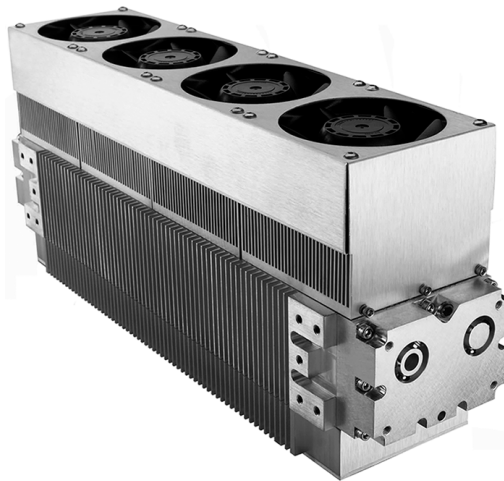
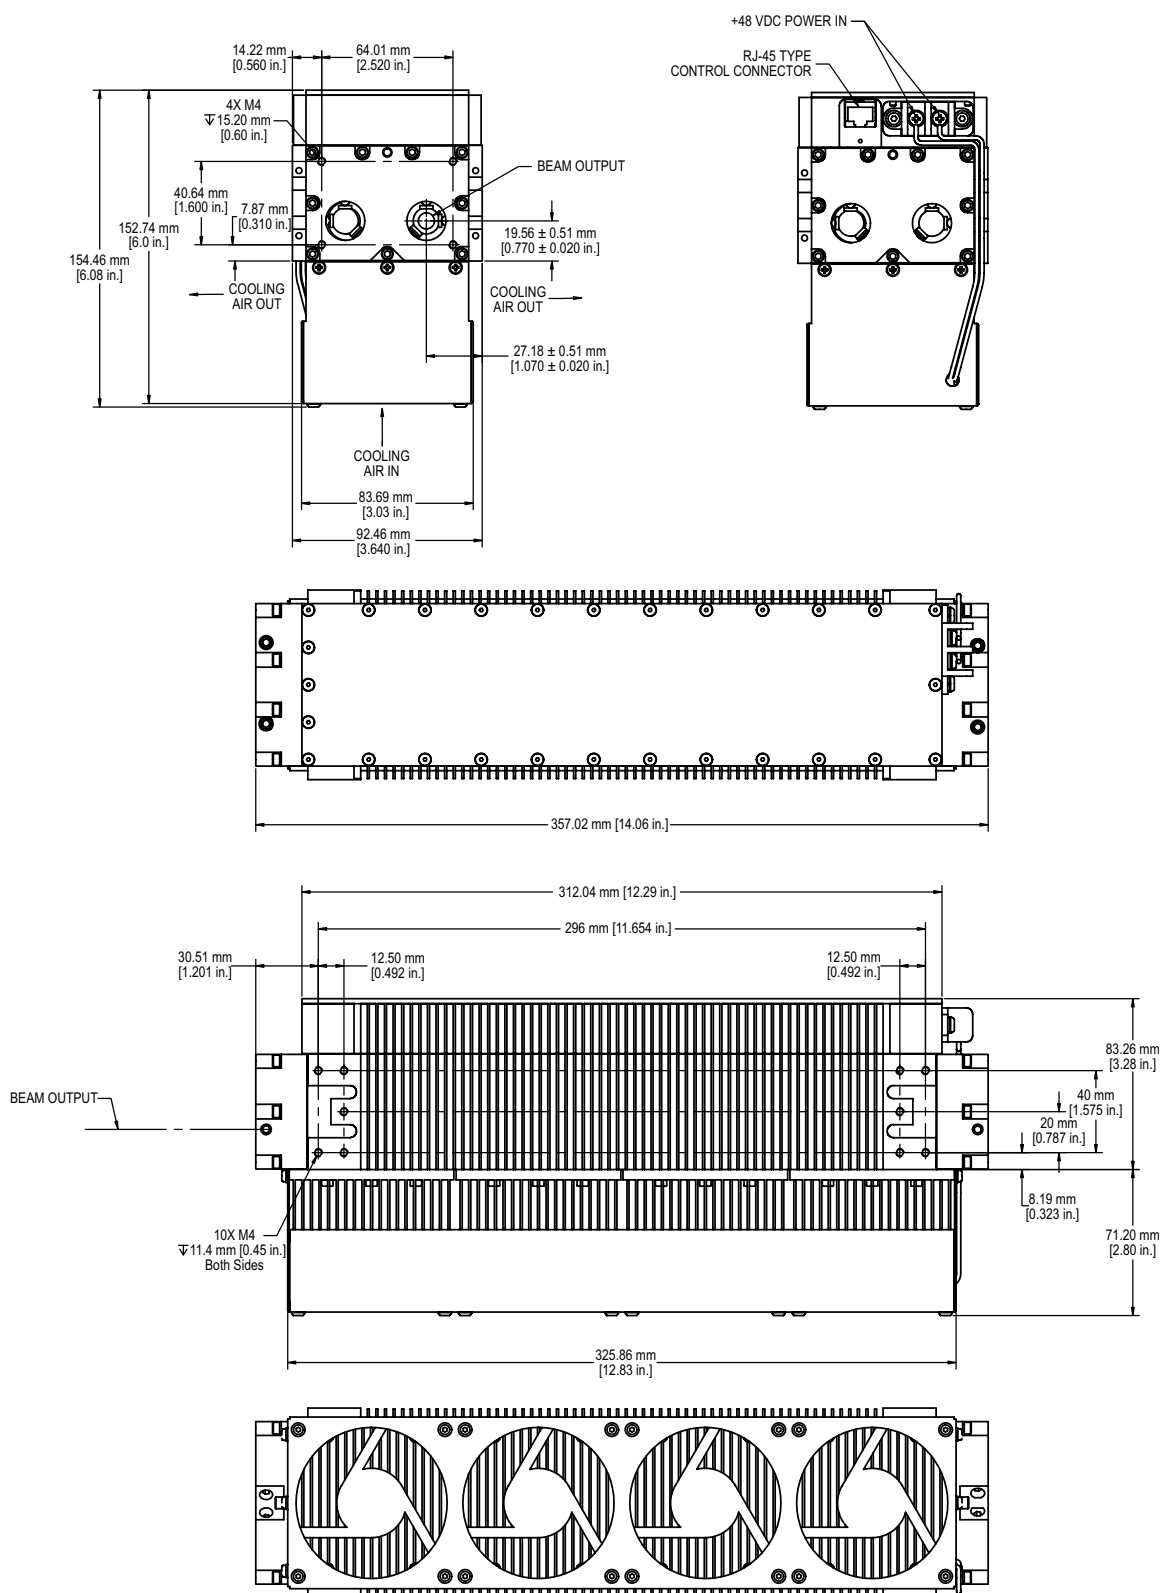

Figure 3-1. C-20 and C-30 Air-Cooled Lasers
Figure 4-2. C-20 and C-30 Air-Cooled Laser Head Dimensions
Figure 3-1 illustrates the baseline configurations (i.e., without any optional hardware additions or deletions) of the C-20 and C-30 lasers. Each laser system consists of a laser head assembly and an integrated radio frequency (RF) power module. The RF power module converts 48 VDC, ≤ 12 A (35 A peak for 1 ms) power to radio frequency power.
The laser head takes RF input power and converts some of it to laser radiation. The rest of the RF input power is exhausted as heat. For the C-20 and C-30 Air-Cooled lasers, the heat is exhausted into the ambient air. The laser head consists of the folded optical waveguide resonator, the all-metal gas envelope structure, and RF power module. Infrared laser radiation is emitted from the optical aperture. Pictures and dimensional drawings for the C-20 and C-30 Air-Cooled lasers are shown in Figure 3-1 on page 23 and Figure 4-2 on page 30.
The laser must be secured properly to avoid the possibility of the laser shifting unexpectedly during operation, creating a hazardous condition. The location of the output beam of the C-20 and C-30 laser head is shown in Figure 4-2. The laser output is emitted from the aperture shown in the referenced figure and propagates within a full cone angle up to 5°. The acceptance angle of the system aperture must intercept all of the output of the laser.
The dimensions for the C-20 and C-30 laser heads are shown in Figure 4-2 (p. 30). Mechanical mounting of the C-20 and C-30 laser head must result in no distortion or stress the laser head in any way. Otherwise, optical alignment and power stability could be adversely affected.